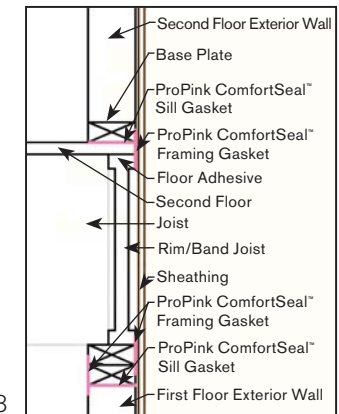

Fig. 8
**Option 2: Exterior rim/joist seam installation (See Fig. 8)**